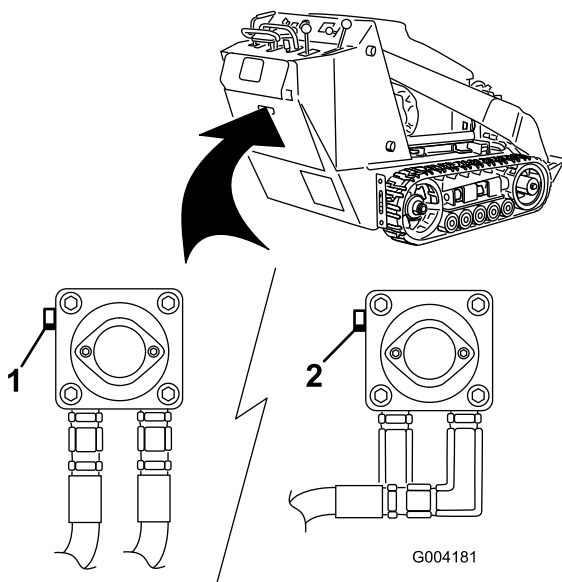

Figure 19
3. Using a wrench, turn the tow valves on the hydraulic pumps twice counter-clockwise (Figure 19).